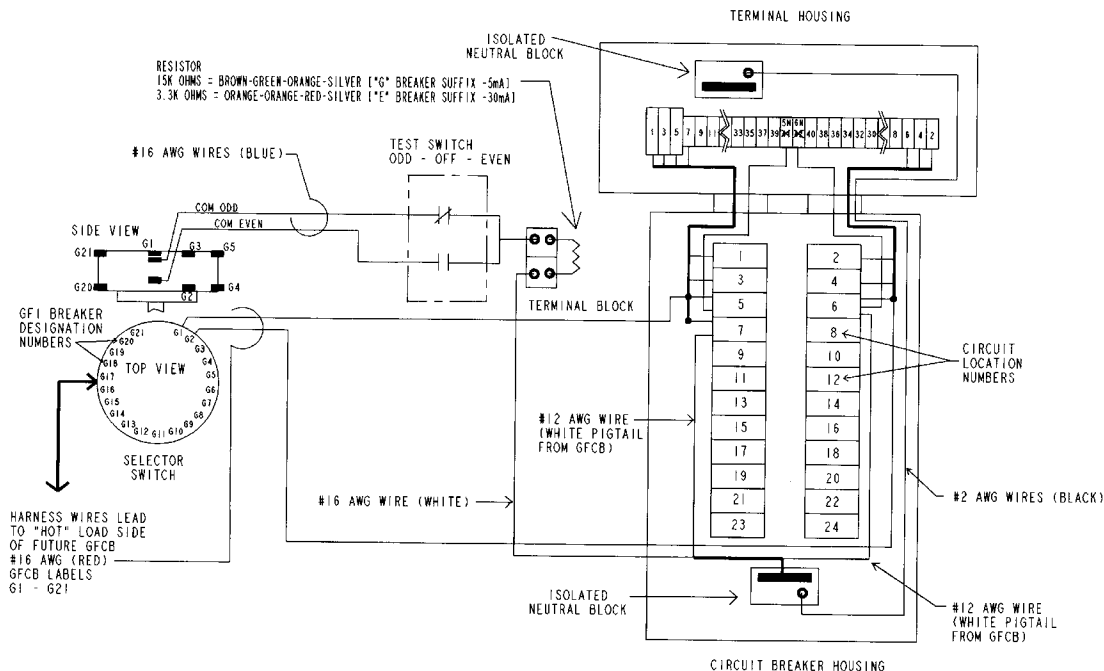

FIGURE 4 • GFCB / EPD Electrical Test System Wiring Diagram
For Ground Fault Interruption (GFI) or Electrical Protection Device (EPD) branch circuits, make connections using typical wiring diagrams per Figure 4.
Example: Two GFCB's, one 2-pole and one single pole, are to be added to a Group B standard (no -A or -I suffix) panel. See Figure 4. Positions #1 through #4 are occupied with single pole non-GFCB (QOB type) breakers.
1. Position selector switch at desired breaker number (See Figure 4).